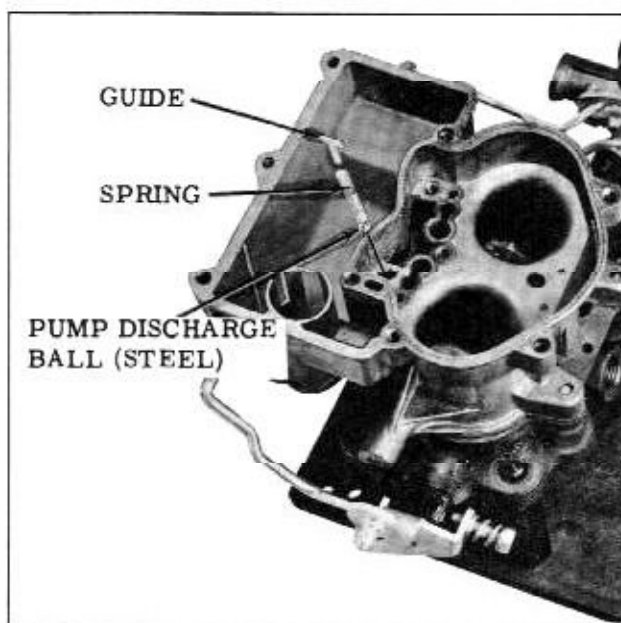

Fig. 8-142 Pump Discharge Guide
5. Using a pair of needle nosed pliers, remove the pump discharge spring guide, then remove the spring and steel ball. (Fig. 8-142)
1. Install the pump discharge (steel) ball, spring and guide in the passage in the venturi cluster mounting surface. (Fig. 8-142)